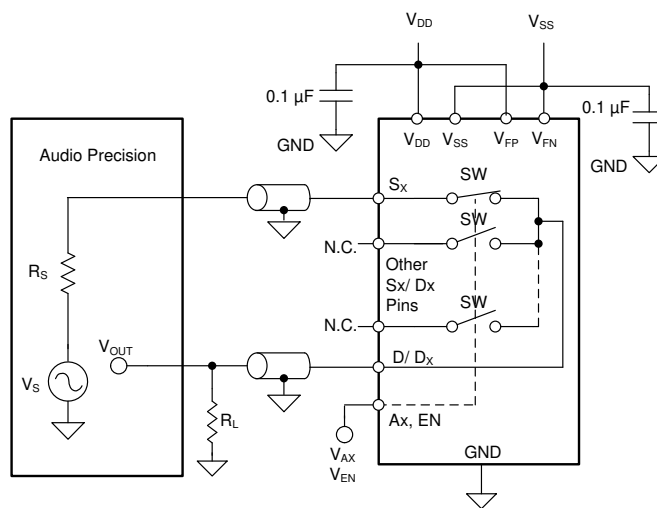

**Figure 6-16. Bandwidth Measurement Setup**
Bandwidth (BW) is defined as the range of frequencies that are attenuated by < 3 dB when the input is applied to the source pin (Sx) of an on-channel, and the output is measured at the drain pin (D) of the TMUX582F-SEP. Figure 6-16 and Equation 3 shows the setup used to measure bandwidth of the switch.